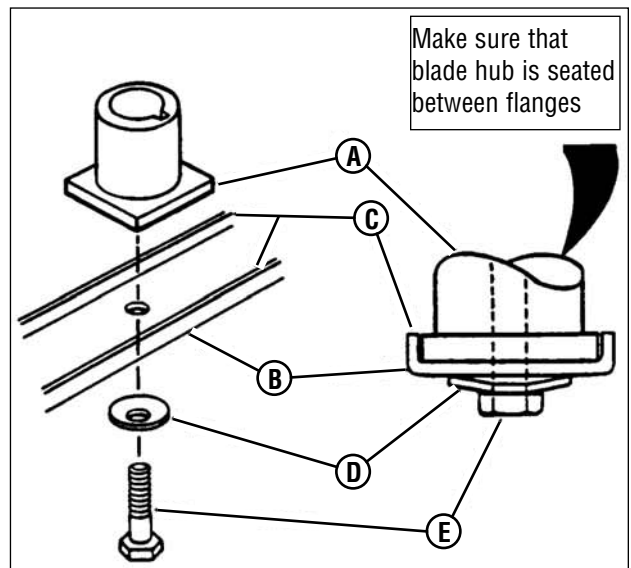

Figure 20: Removing the mower blade
3. Remove the blade (**B, Figure 20**).
- Reinstall blade (**B**, **Figure 20**). Note the correct assembly order: